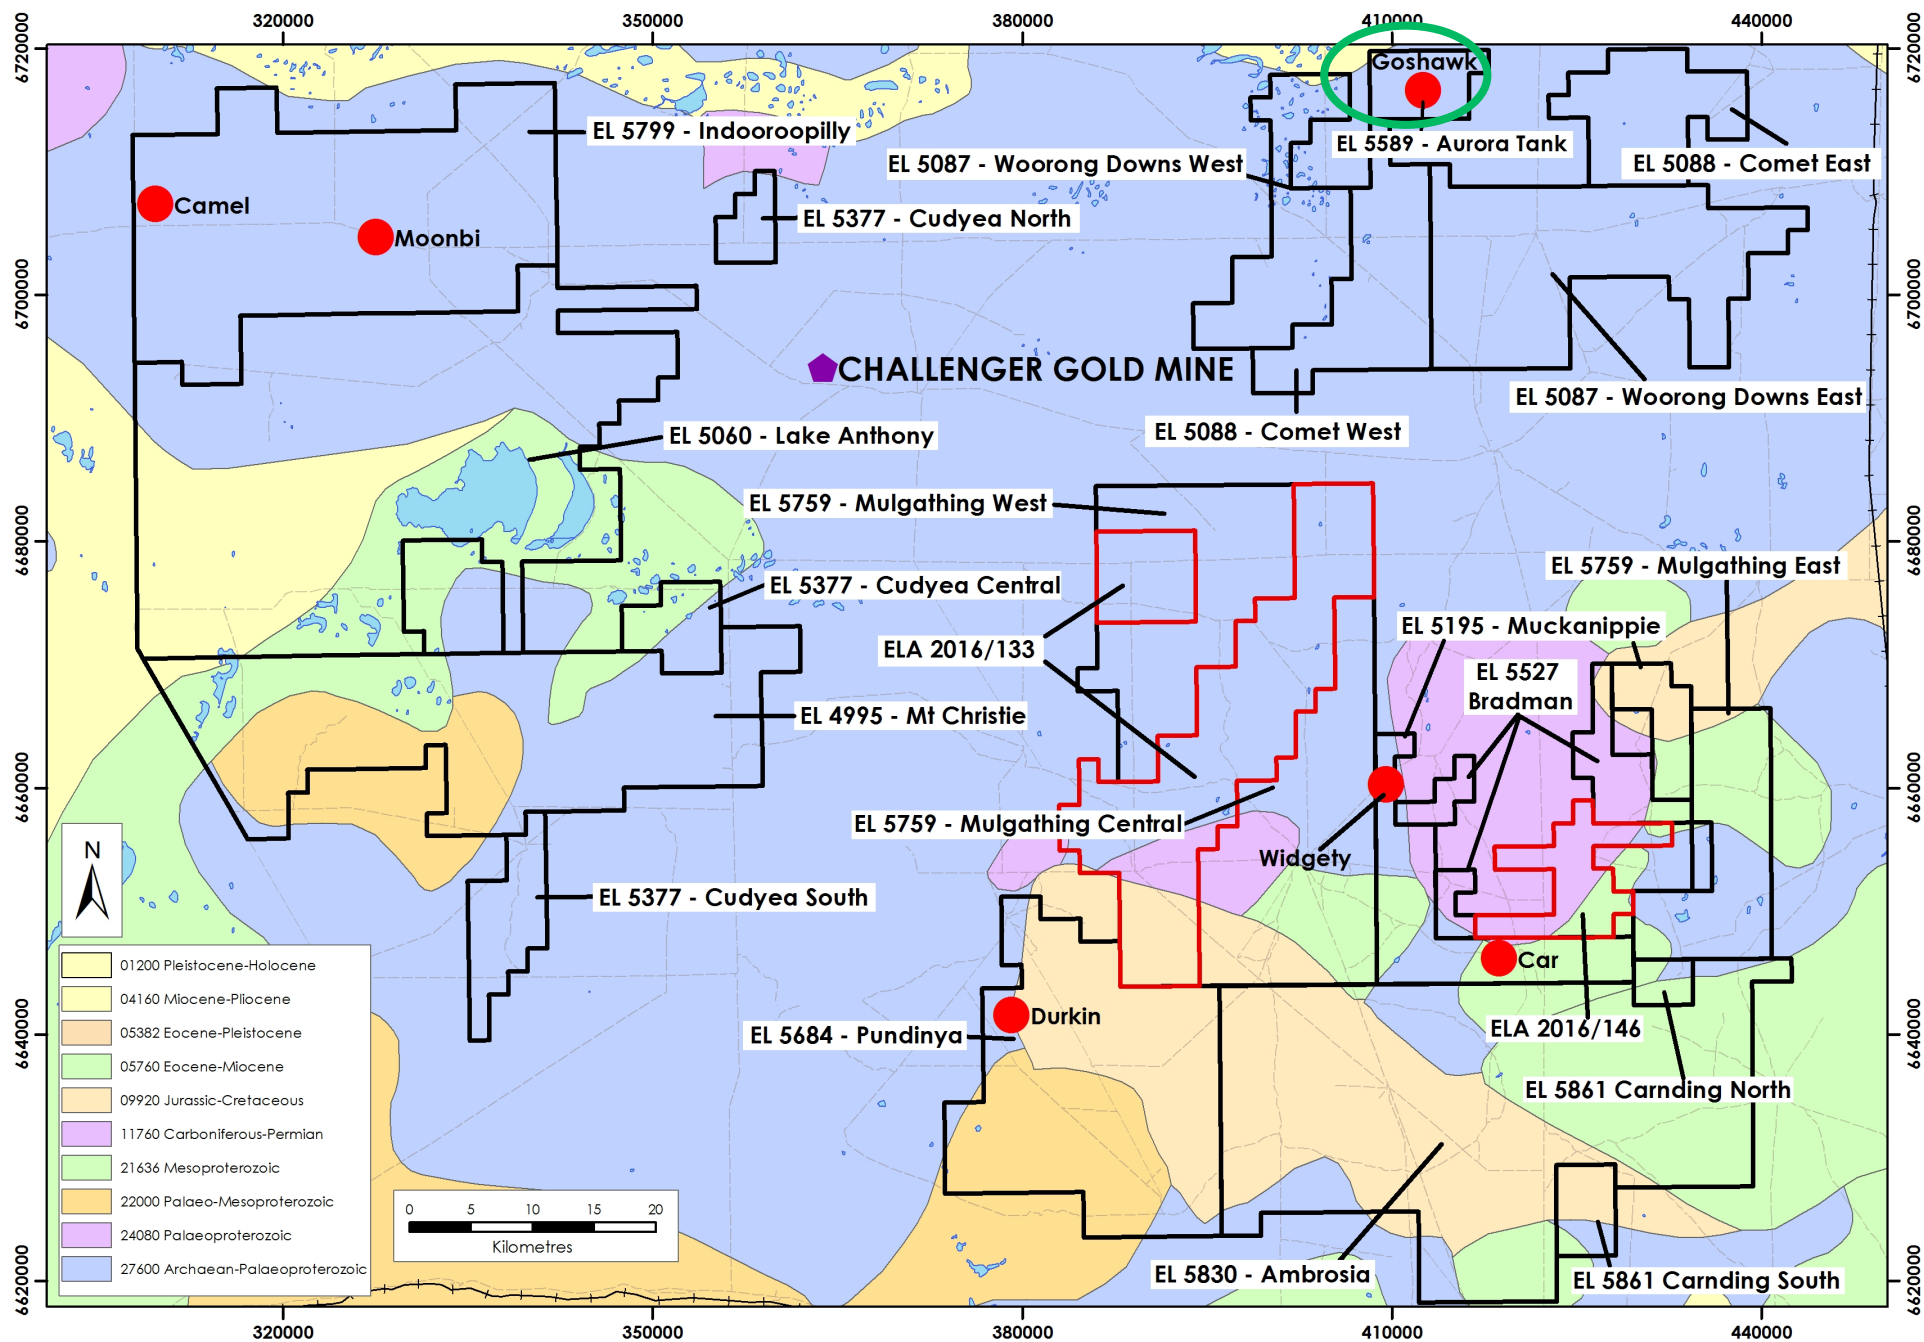

Figure 2: Marmota's Gawler Craton tenements around the Challenger Gold Mine
- Aurora Tank (EL 5589) is situated about 50km NE of the Challenger Gold Mine [see Fig. 2]